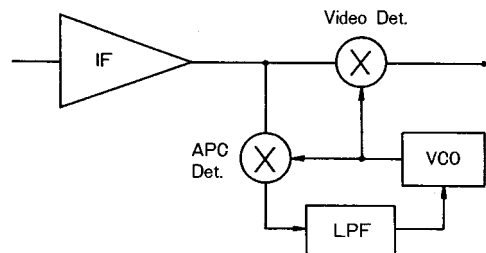
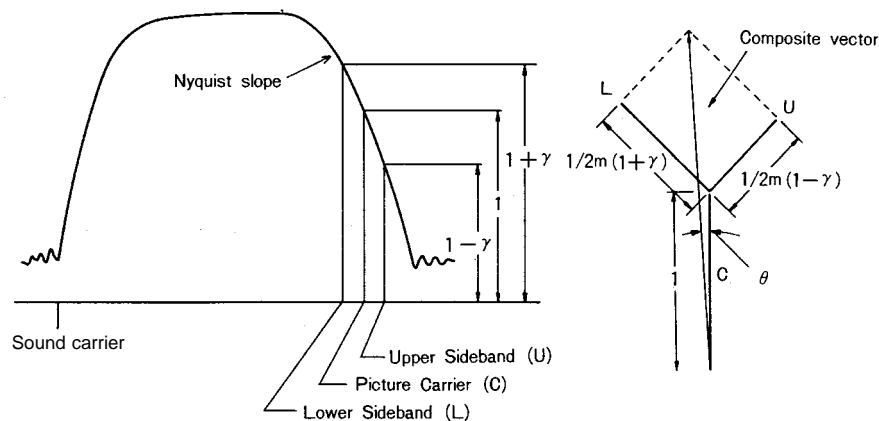

Fig. 1 PLL Detector
Fig. 2
In general, in the PLL detection system, if the VCO power supply is affected by noise such as flyback pulses (FBP), the VCO oscillating frequency can be disturbed by the noise component, with a worsening of the buzz characteristics as a result. Therefore, in order to protect against the effects of VCO power supply fluctuations due to this type of noise in the LA7578N, the VCO power supply has been regulated to be constant. The explanation below concerns the PLL detector. A typical PLL detection system consists of the blocks shown in Fig. 1.
APC detection by the PLL detector shown in Fig. 1 is accomplished by multiplying the IF signal and the VCO signal by the phase difference $\pi/2$, generating the VCO control voltage. Multiplying by the phase difference $\pi/2$ makes it possible to suppress the AM component; in addition, because VCO is controlled through a low-pass filter (L.P.F), a carrier signal with a good C/N is obtained. As a result, by using the PLL detection system, the improved characteristics (1) through (4) listed above become possible. However, because television broadcasts are transmitted using the vestigial sideband system, simply using the PLL detection system will create the following problems in regard to the audio characteristics. The RF signal that is input from the antenna is converted to an IF signal by the tuner, and a Nyquist strobe generated by a SAW filter is passed through the corresponding vestigial sideband. At this point, because the sideband in the region of the picture carrier is eliminated as shown in Fig. 2, the vector amounts of the upper sideband and the lower sideband differ, generating a phase distortion (θ) in the composite vector amount.